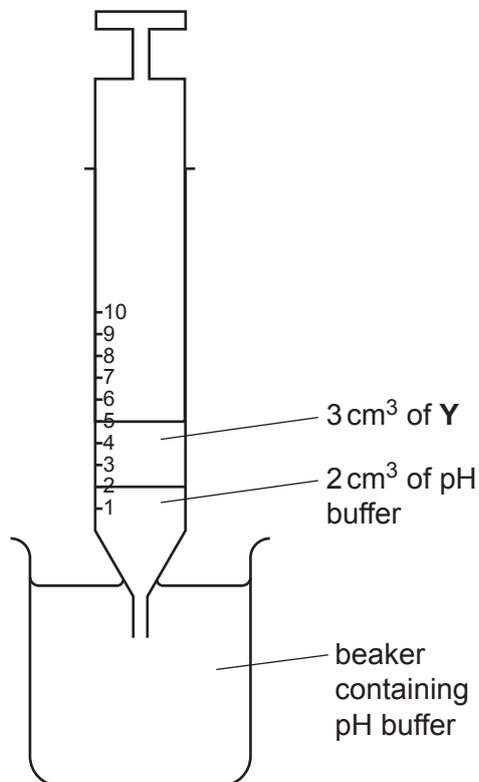

Fig. 1.3
9. Pull the plunger out to the 5 cm³ mark so that approximately 2 cm³ of the buffer enters the syringe, as shown in Fig. 1.3.